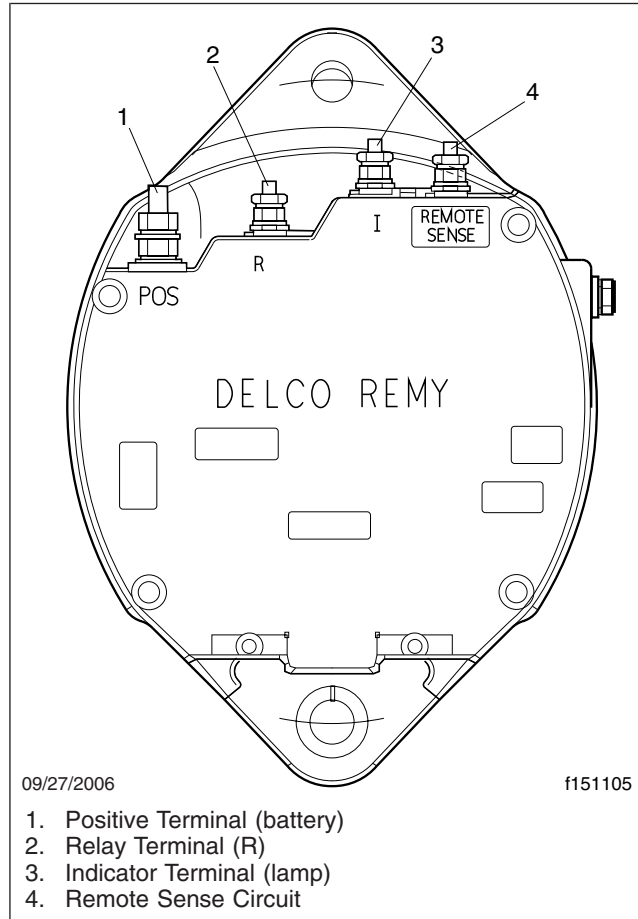
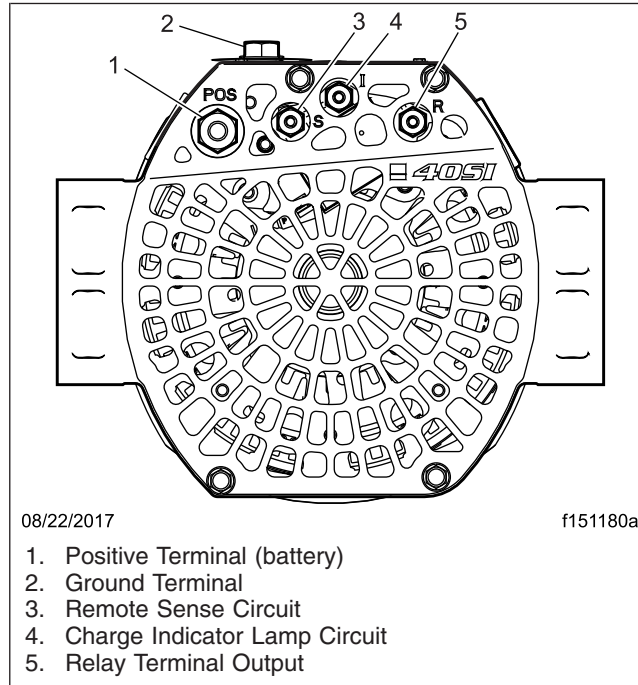
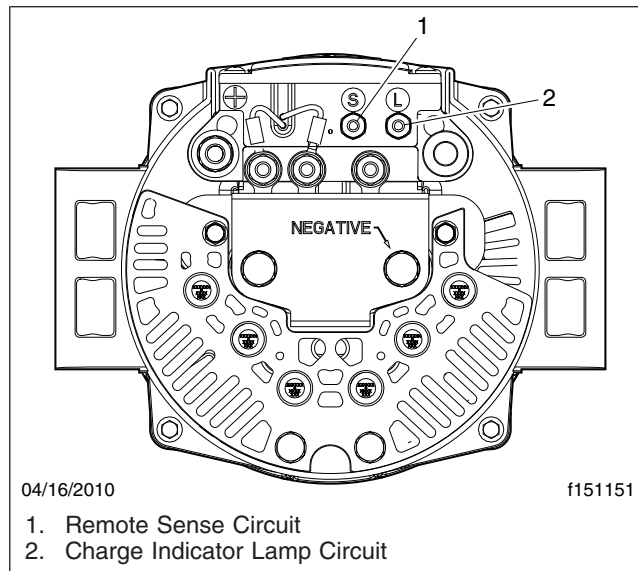

Fig. 1, Delco Remy 36SI
Fig. 2, Delco Remy 38/40/55SI
Fig. 3, Leece-Neveille 12V 270 AMP 4967PGH Alternator
Inspect the alternator to ensure that the wires are properly installed. Use the instructions in this bulletin to inspect the alternator, along with Fig. 1, Fig. 2, or Fig. 3, depending on the type of alternator installed on the vehicle.
4. Check the voltage at the indicator light terminal on the alternator. See Fig. 1, Fig. 2, or Fig. 3.